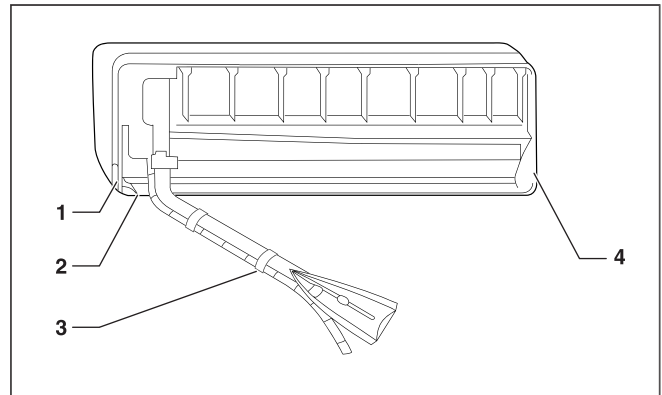

Fig. 9.7 Windows for the installation of the pipes.
- Case B: laying the side or bottom piping. In this case holes do not have to be made on the wall since the indoor unit body has windows which can be opened to admit the pipes: choose the most adequate one for the desired outlet position (see Figure 9.7).